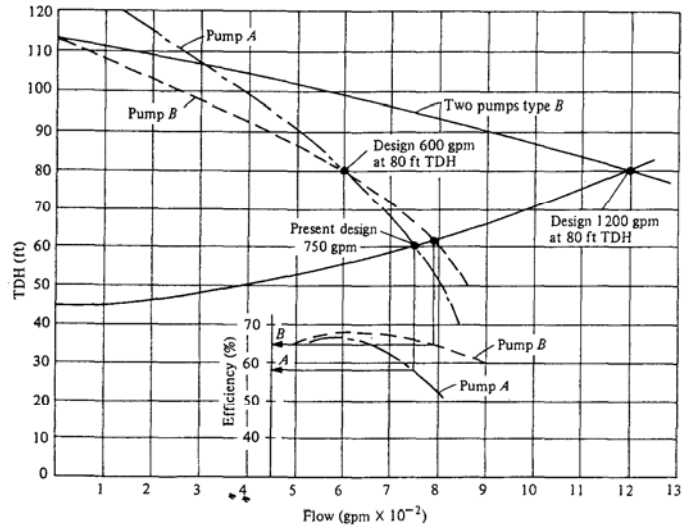

FIGURE 5-29. Solution for Example 5-6.
- (a) The total curve for dynamic head versus discharge is plotted as shown in Fig. 5-29. Values for the curve are obtained as indicated in Sec. 5-11.
- (c) From manufacturers' catalogs, two pumps, *A* and *B*, are found that will meet the specifications. The characteristic curves for each pump are shown in Fig. 5-29. The intersection of the characteristic curves with the system-head curve indicates that pump *A* can deliver 750 gpm at a TDH of 60 ft while pump *B* can deliver 790 gpm at a TDH of 62 ft. A check of the efficiency curves for each pump indicates that pump *B* will deliver the present flow at a much greater efficiency than pump *A*. Therefore, select pump *B*.